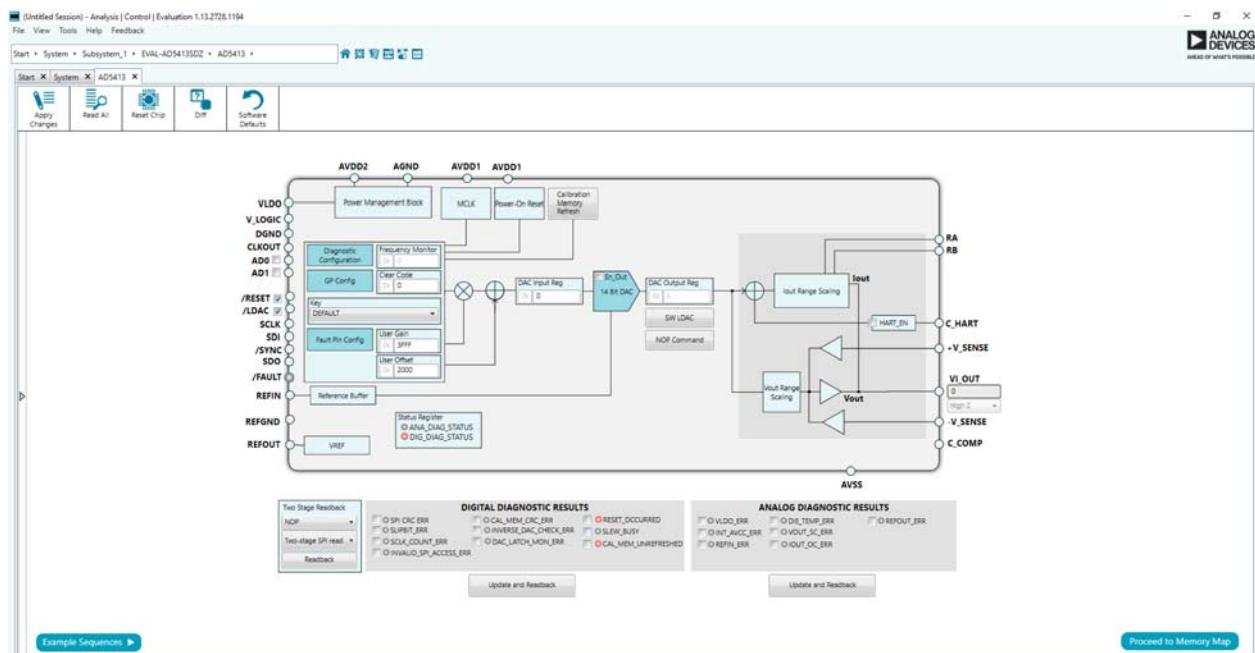

Figure 7. AD5413 Block Diagram in the ACE Software
8. Double-click **EVAL-AD5413SDZ** to open the **AD5413** block diagram (see Figure 7). The **INITIAL CONFIGURATION** window appears on the left side of the ACE window. Several register settings can be configured in this pane and are written to the device in the appropriate order. The **RESET_OCCURRED** and **CAL_MEM_UNREFRESHED** LED indicators in the **DIGITAL DIAGNOSTIC RESULTS** section are illuminated red by default (see Figure 7).